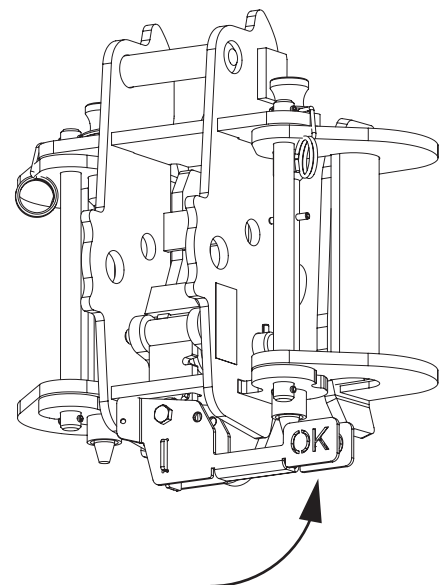

Fig. C5.15
- To activate it, swivel the Visual Aid Climbing Shoe RCS upwards again (Fig. C5.15)